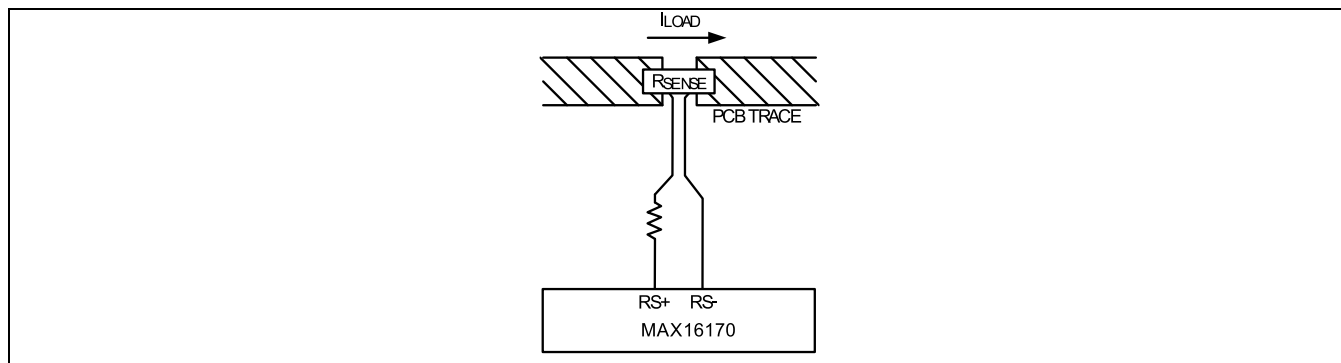

Figure 15. Kelvin Sensor Connection
5. Due to the high currents that may flow through R_{SENSE} , take care to eliminate solder and parasitic trace resistance from causing errors in the sense voltage. Either use a four-terminal current-sense resistor or use Kelvin (force and sense) PCB layout techniques. Figure 15 shows a typical routing of Kelvin-sensed traces to RS+ and RS- pins. The Kelvin sense traces should be as close as possible to the current-sense resistor's solder contact pads.